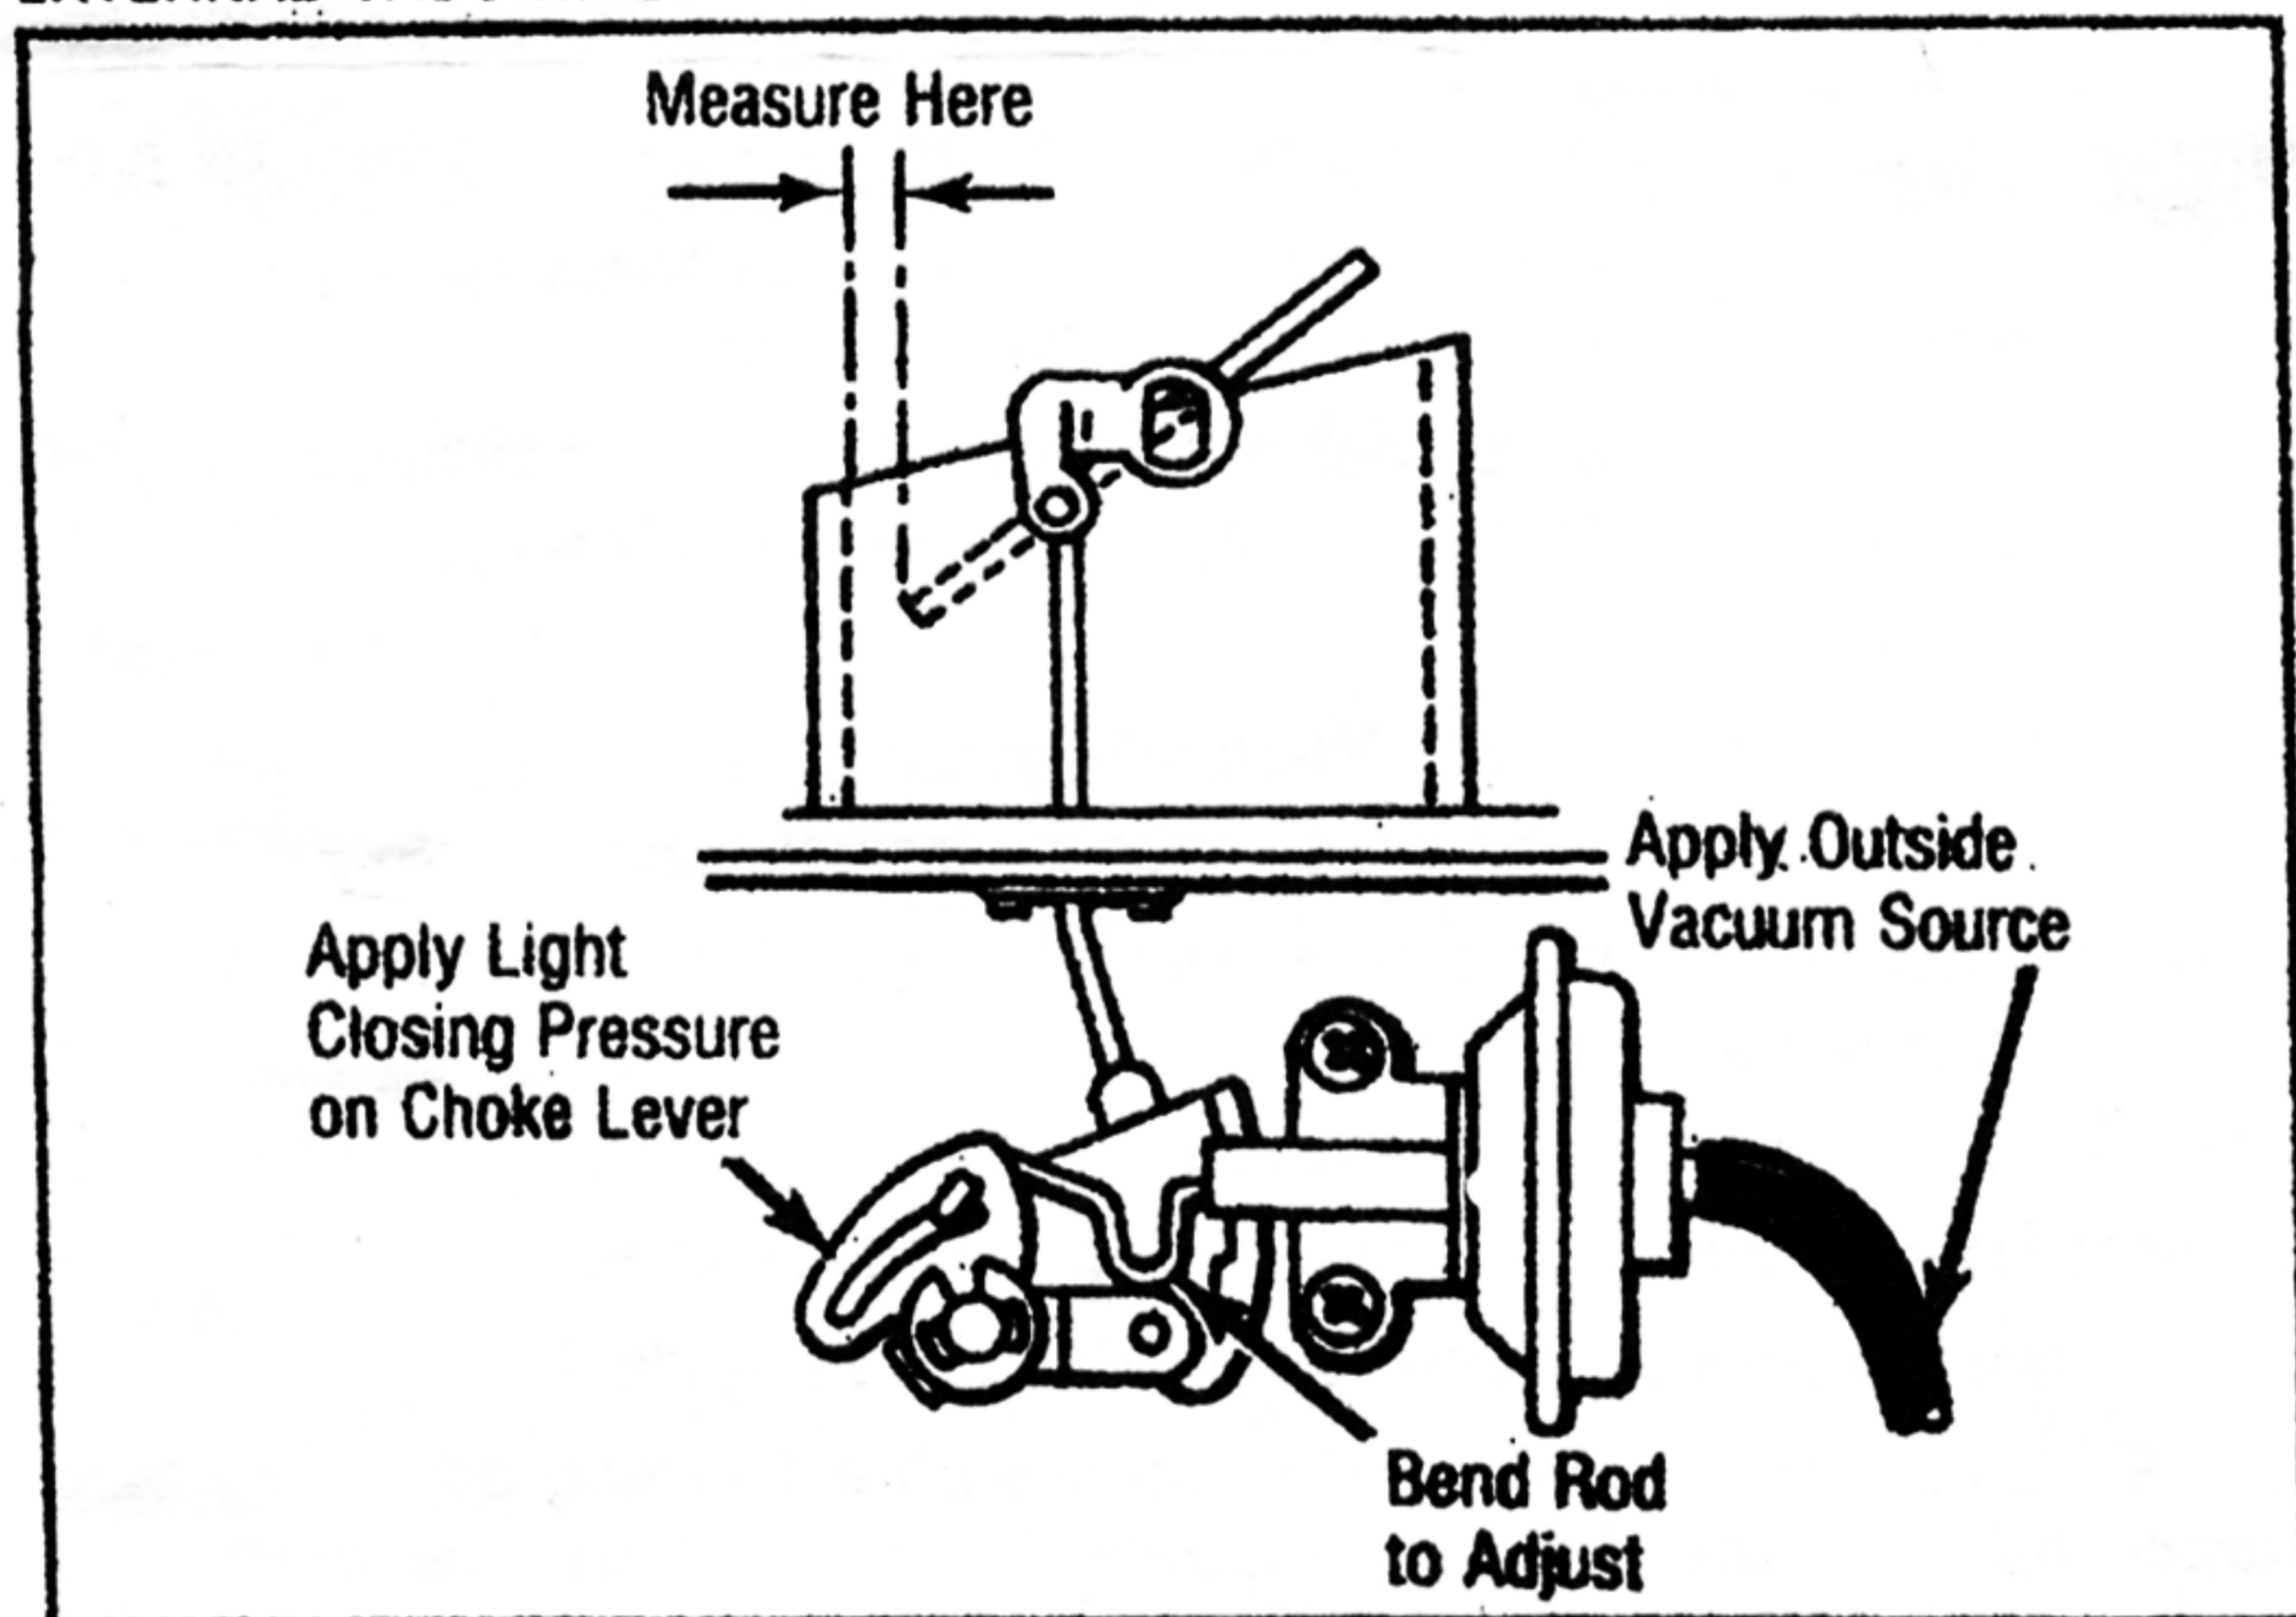

Fig. 9 Choke Pull Down Adjustment (External Vacuum Diaphragm Type)
1. Position fast idle tang on second step of fast idle cam. Seat vacuum diaphragm using an outside vacuum source of at least 15 in. Hg. See Fig. 9.